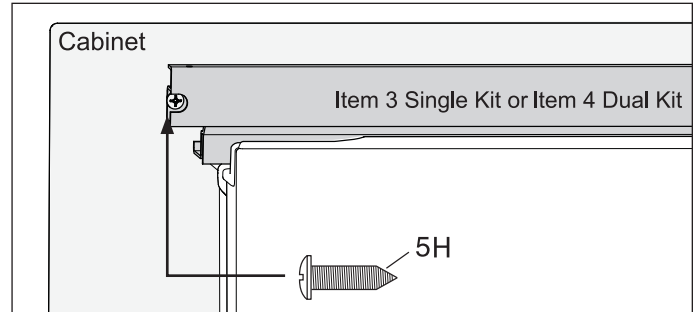

Figure 2-24.
- a. Slide units into place. Adjust height so top trim height reaches 75.09" (1907mm). Center units in opening and level. (See Step 12 for leveling instructions)(See Figures 2-24 and 2-25)